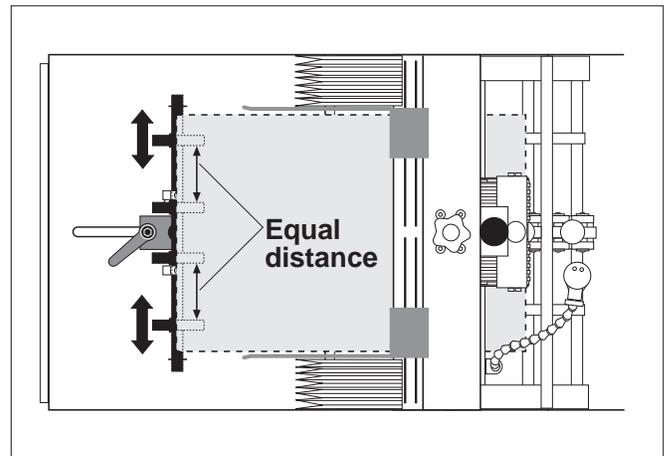

Figure 16. Evenly Adjusting Individual Rollers
6. Check that individual rollers are evenly spaced to provide enough support to lift the product off the table top and feed belts, without any bowing or twisting (Figure 16). *Refer back to page 12 for guidelines on adjusting individual rollers for thinner material.*